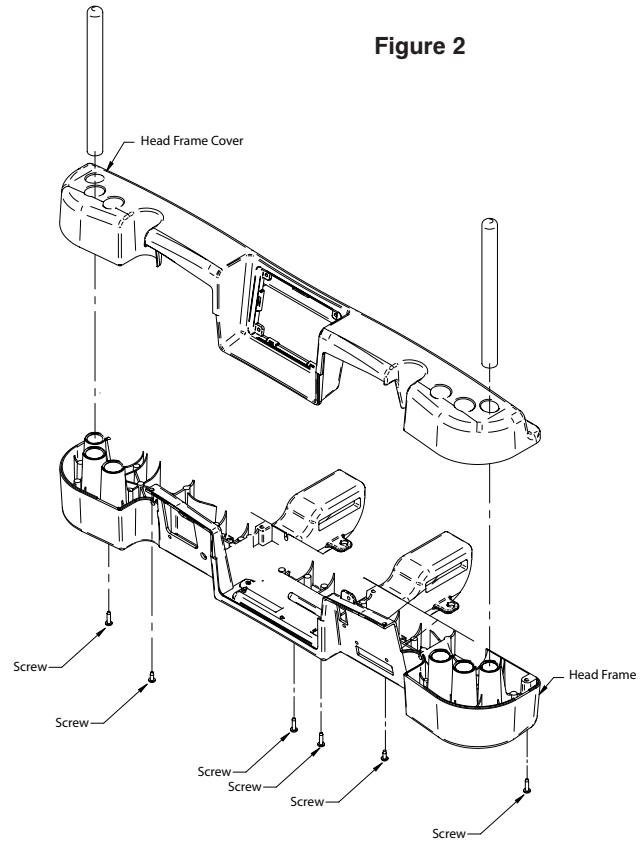

Figure 2
5. Using a Phillips screwdriver, remove the six screws from the head frame cover, lift up on the cover and lay it on the litter (Figure 2)